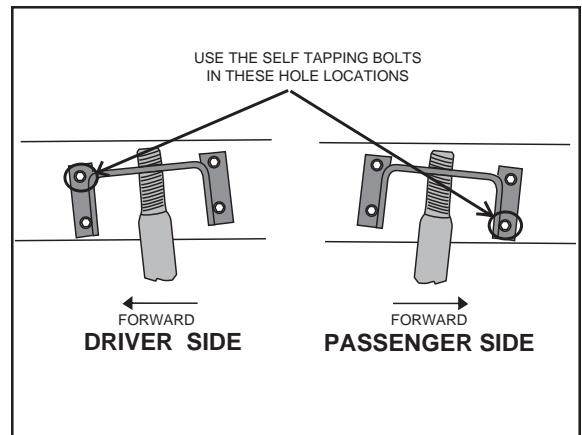

Figure 3
- d. Rotate the upper bracket back to the original location and install a bolt (L), flat washer(M), and nylon lock nut (J) through the second hole that was drilled.
- f. Centerpunch and drill a third 3/8" hole through the rear, lower mounting hole and insert a 3/8" bolt (L), flat washers (M), and a nylon lock nut (J). Tighten to 20 lb.-ft.
- g. A self-tapping screw (P) is required in the forward, lower mounting hole (Figure 3). Drill a 5/16" hole and insert and tighten the self-tapping screw.
- a. Centerpunch and drill a 3/8" hole through the forward, lower mounting hole. Insert the 3/8" bolt (L), flat washers (M), and nylon lock nut (J). Leave loose at this time.
- d. Rotate the upper bracket back to the original location and install a bolt (L), flat washer (M), and nylon lock nut (J) through the second hole that was drilled.
- e. Centerpunch and drill a third 3/8" hole through the rear, upper mounting hole and insert a 3/8" bolt (L), flat washers (M), and nylon lock nut (J).
- f. A self-tapping screw (P) is required in the forward, upper mounting hole (Figure 3). Drill a 5/16" hole and place a shim (U) between the upper bracket and the frame. Insert and tighten the self-tapping screw.